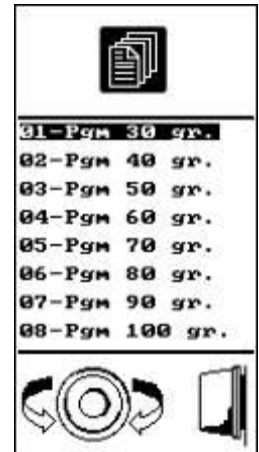
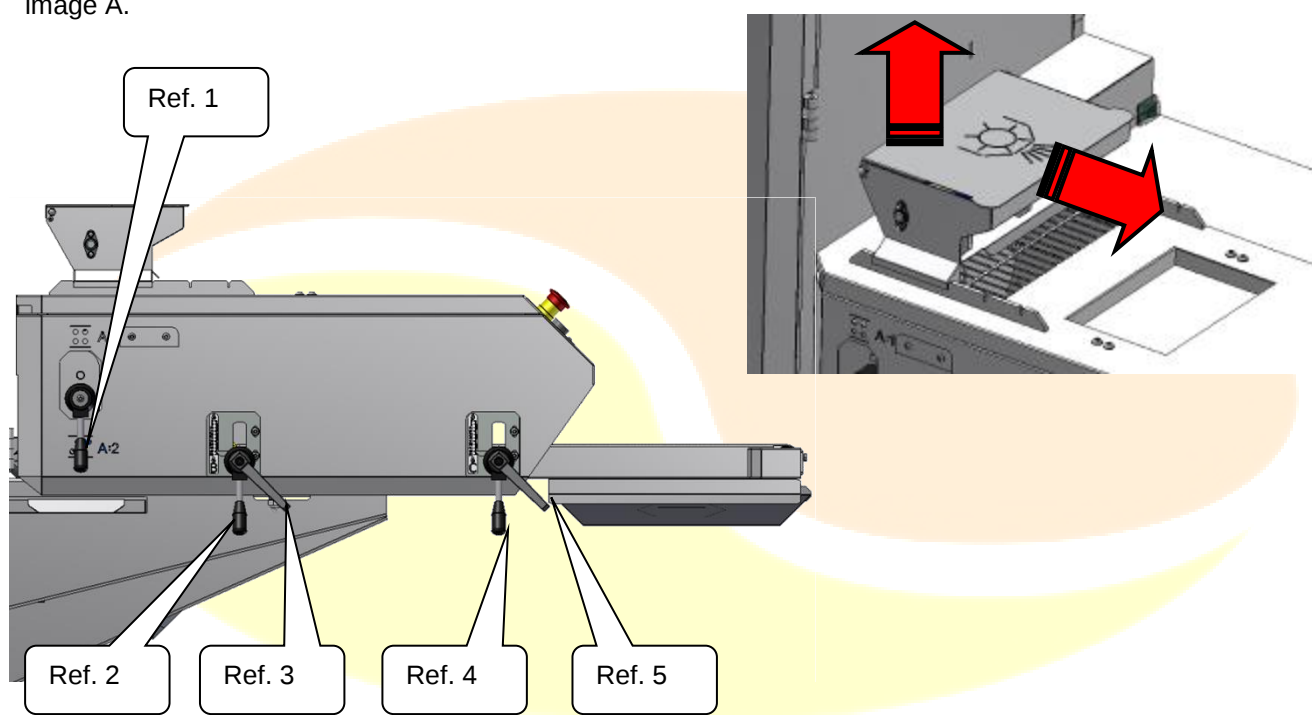
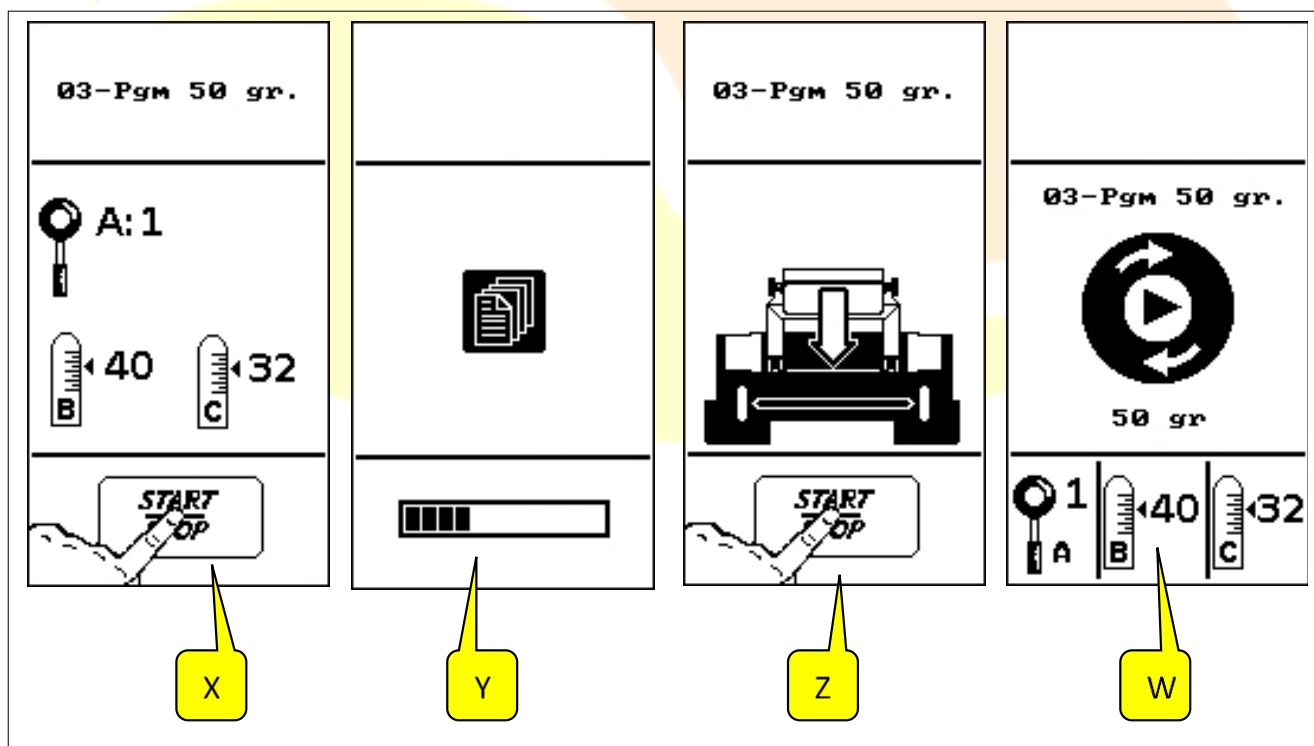

Figure 15 - Program list (recipes)
Figure 19 - Loaf moulder adjusting unit
Figure 22 - Starting of processing
The “SYNCRO M” and “SYNCRO EM” versions are fitted with an additional loaf moulder Figure 19 . The adjustment of this unit is carried out manually using the following controls:
- Use "I-DRIVE" par. 2.4ref. 9, to scroll through the list of programs among those visible on the display: as shown in the image in par.3.7.2 Figure 15 where, for example, the program "01-Pgm 30 gr" is highlighted
- Press "I-DRIVE" par. 2.4 ref. 9 to select the highlighted program.
- The display will show the "X" image in Figure 22 , and the machine will wait for the START button to be pressed par. 2.4ref. 8 to start the automatic adjustment set-up according to the selected program. In the same "X" image, based on the selected program and the stored data, the display also shows the manual setting of the machine's loaf moulder (only for the "SYNCRO M" and "SYNCRO EM" versions - as illustrated in par. 3.7.5 in Figure 19 as regards lever ref. 1, lever ref. 2 blocked by lever ref. 3, lever 4 blocked by lever 5).
- By pressing the "START" button2.4 ref. 8 the machine starts the automatic set-up with all the internal adjustments necessary to carry out the selected program, while the display will show the image "Y" in Figure 22 ;
- After a few seconds, depending on the selected program, the display will show the "Z" image in Figure 22 , indicating that the machine is ready to start working. The display also shows the loading hopper, as a reminder that it is necessary to insert the dough into the hopper in order to start processing.
- By pressing the "START" button again2.4 ref. 8, the machine will start working and the display will show the "W" image in Figure 22 with the central circular icon on the display in rotary simulation, to indicate that the machine is working. Also in this case, the display will show the manual adjustments to be made on the loaf moulder (A, B, C), if installed on the machine.